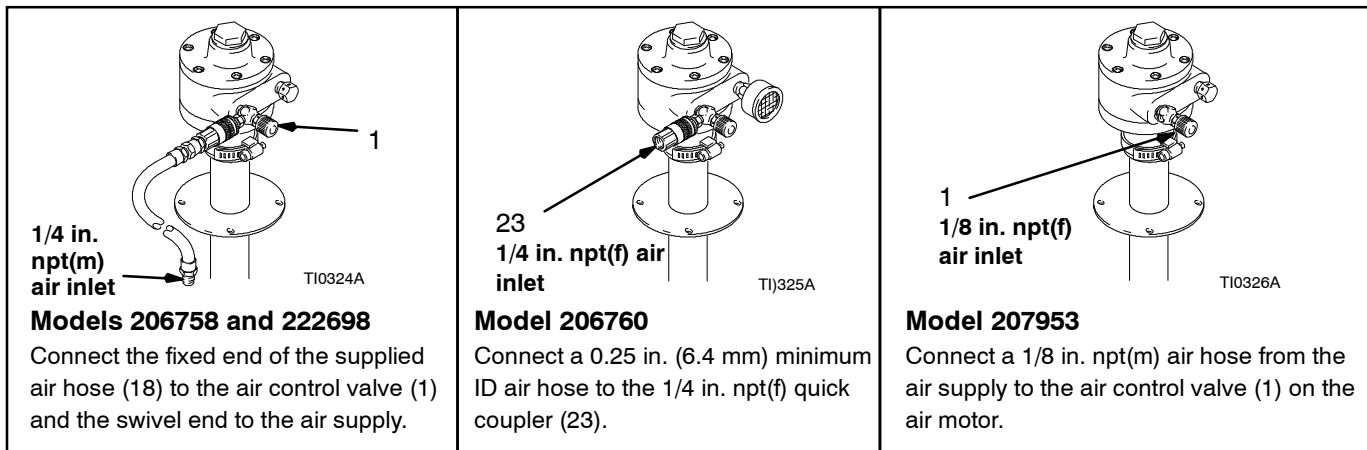

Fig. 1
**NOTE:** Refer to the **Dimensional Drawing** and **Mounting Hole Layout** on page 12. See Fig. 1 for air hose connections.